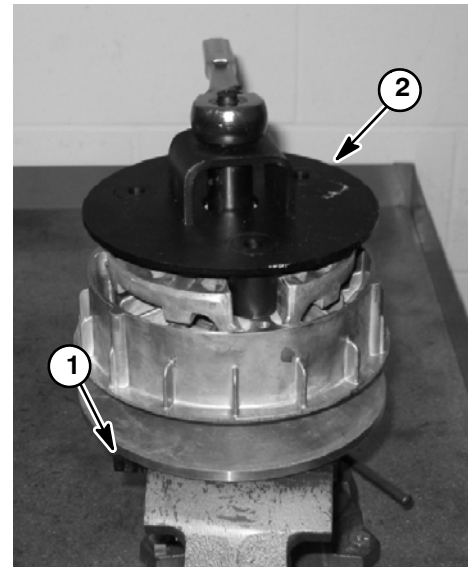

Figure 19.2
6. Using spider removal spanner (see Special Tools), remove spider (item 4) from the fixed sheave post (Fig. 19.2).
7. Remove shims (items 3 and 9) from fixed sheave post. Label shims and their location for assembly purposes.